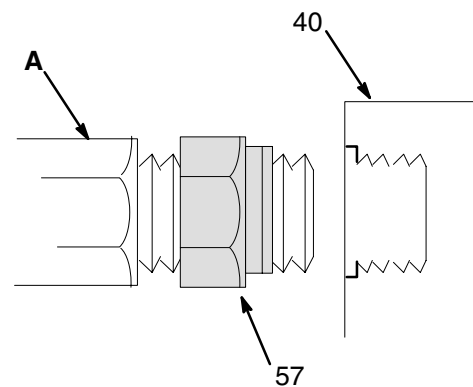

Fig. 1
NOTE: A 1 in. npt seal (57) is supplied in a plastic bag with the motor. Thread the seal onto the threads of your hydraulic return line fitting (A). Thread the fitting into the upper housing (40) and torque as needed. Then tighten the seal (57) against the motor to provide a secure seal. See Fig. 1.